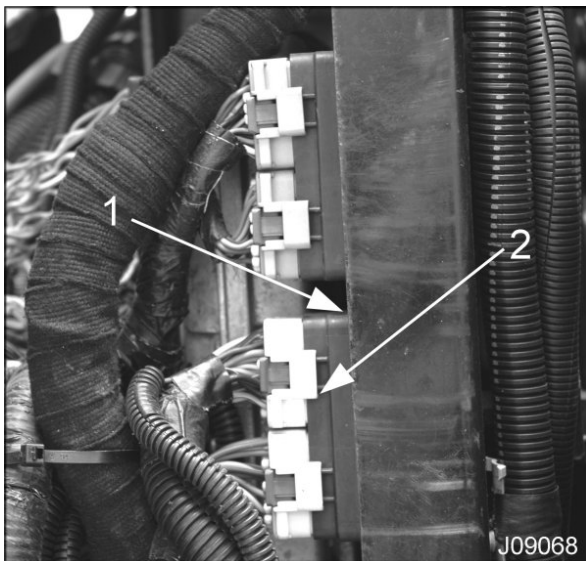

Figure 7 ECM and X-3 Connector
13. Remove the X-3 connector from the ECM (Figure 7).